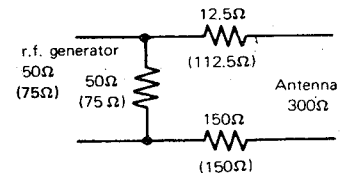

Fig. 2 DUMMY ANTENNA
- When connecting the r.f. generator to the antenna terminal use the dummy antenna . . . refer to Fig. 2.